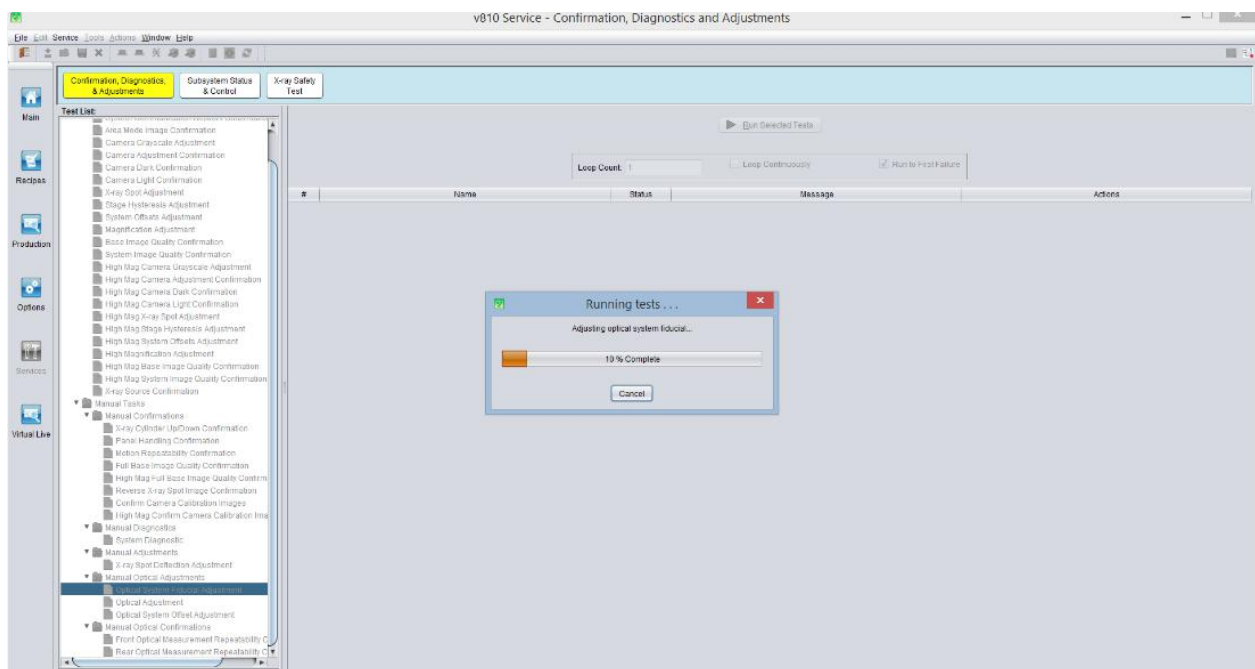

Figure 7 Loading the adjustment plate to the machine
9. Once the Adjusting optical system fiducial reach 10% complete as shown in the Figure 7, load the manual load adjustment plate. May refer to Figure 7 to Figure 9.